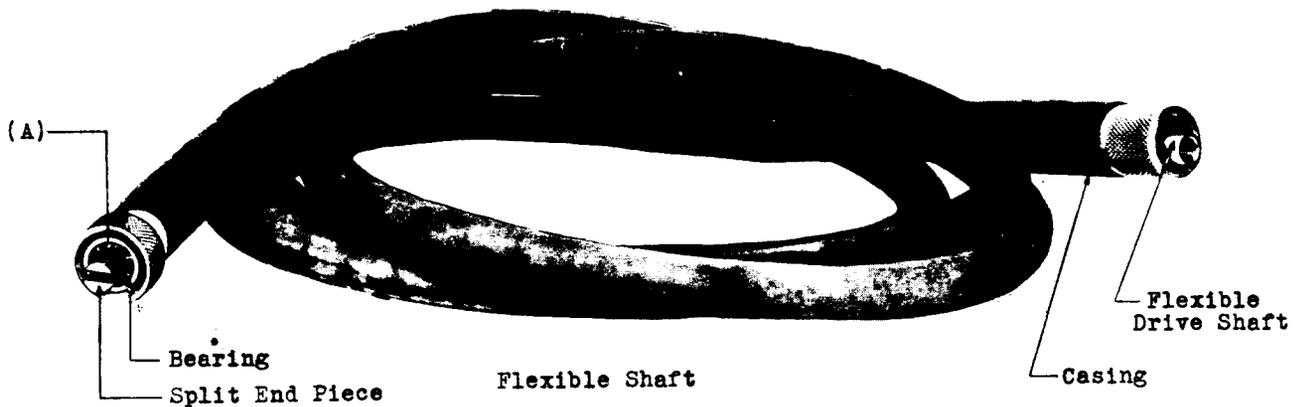

Fig. 3
2.23 Bearing Movement - Fig. 3 (A) - The bearings shall operate freely. Gauge by feel.